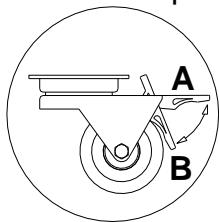

Fig.3 Caster unit
- Place the device on an even and sufficiently firm surface, then level it using the leveling feet. In the case of mobile devices caster locks should be used in order to prevent movement during operation Fig.3 \(p.6\).